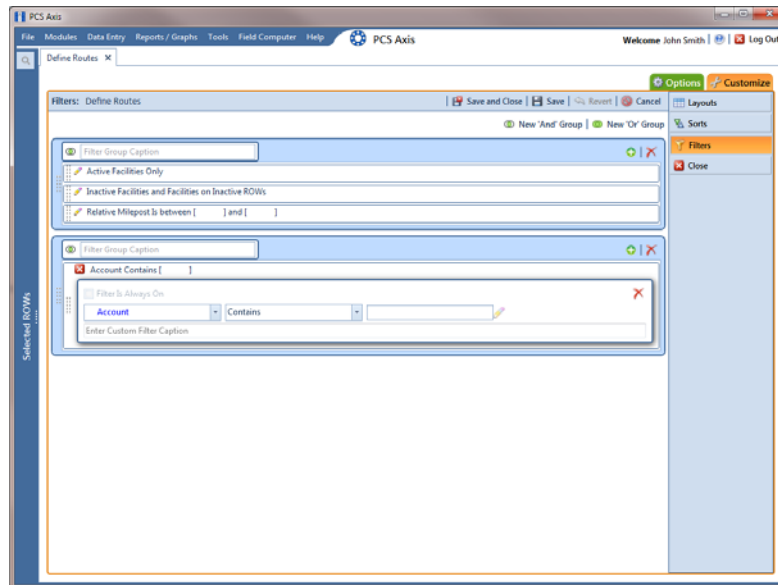

Figure 8-49. Filters
- 4 Click  **New 'And' Group** to open a filter properties group box (Figure 8-49).